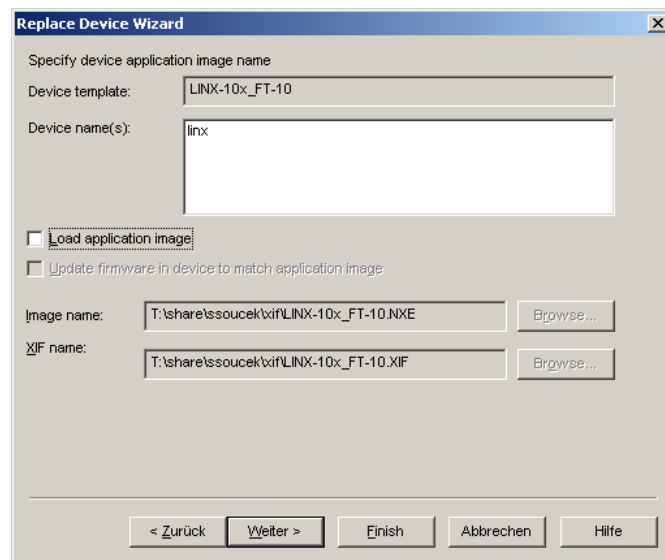

Figure 95: Click Next without loading an application image.
4. In the following window shown in Figure 95 click **Next**.